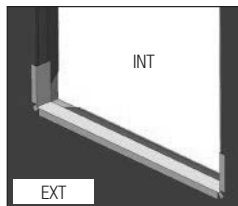

FIG. 7
- Apply sill flashing to the rough opening as shown below. (Fig. 7)